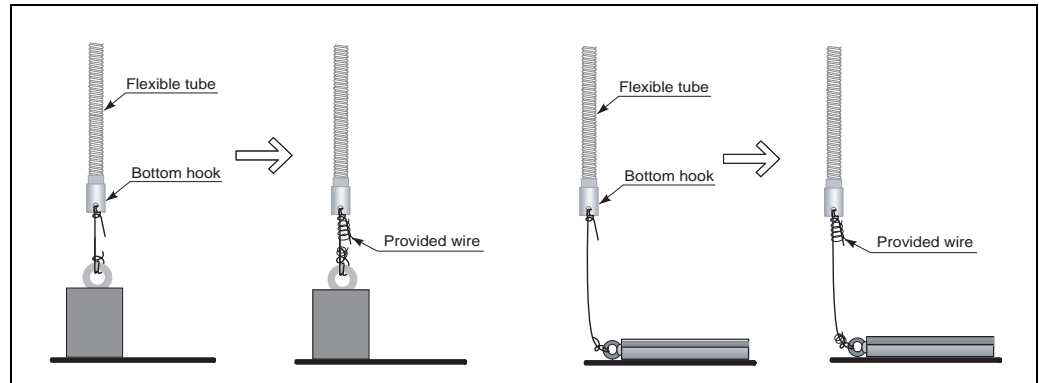

Figure 5-7: Anchor weight mounting
4. Wrap the tensioning wire twice around a hole on the bottom hook, tighten it and wrap a provided wire around it (see Figure 5-7 on page 16).
4. Tighten the tensioning wire between the lower end of the flexible tube and the anchor weight. Wind the tensioning wire twice around each of the hitches and wrap a wire around it (see Figure 5-7 on page 16).